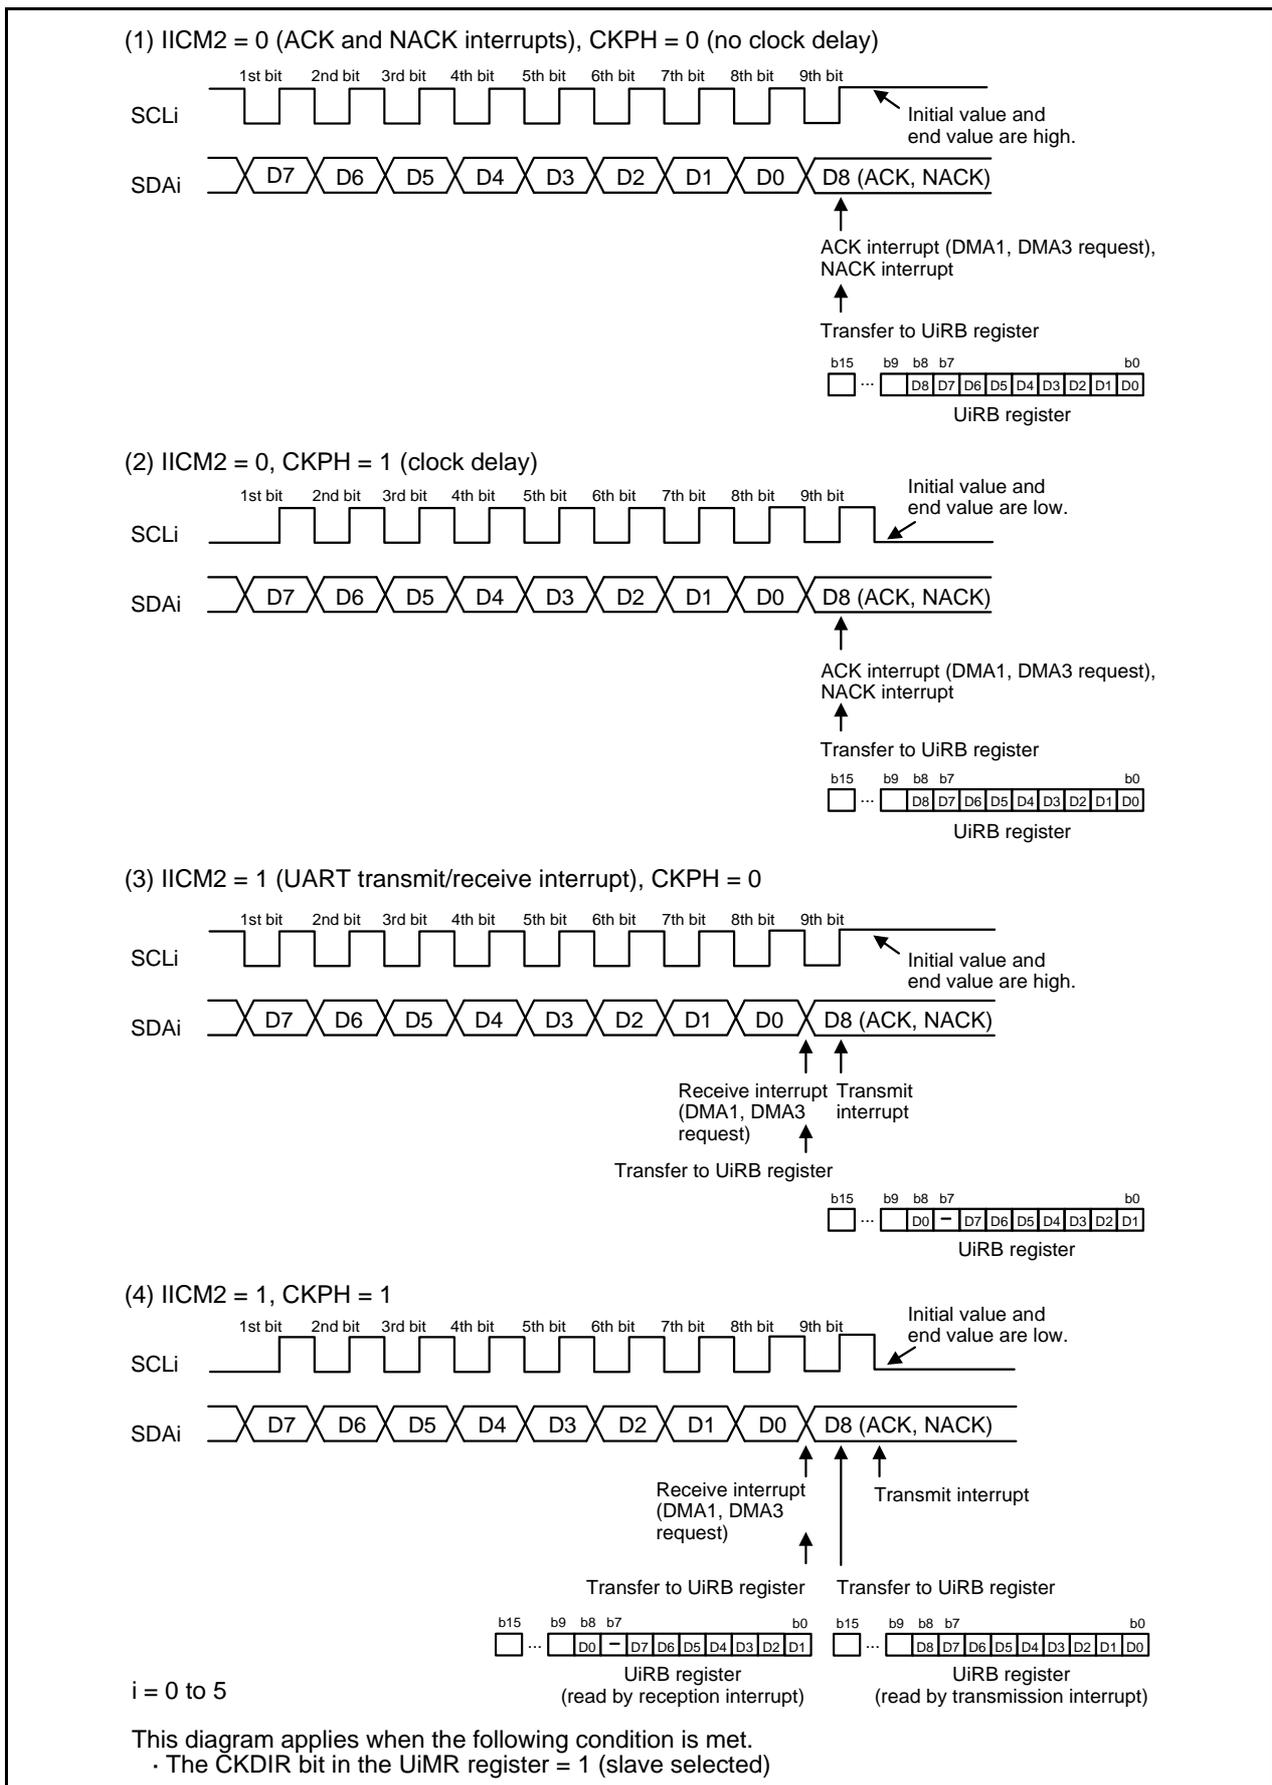

Figure 22.19 Transfer to UiRB Register and Interrupt Timing
In I²C mode, the functions and timings vary depending on the combination of the IICM2 bit in the UiSMR2 register and CKPH bit in the UiSMR3 register. Figure 22.19 shows Transfer to UiRB Register and Interrupt Timing. Refer to Figure 22.19 for the timing of transferring to the UiRB register, the bit position of the data stored in the UiRB register, types of interrupts, interrupt requests and DMA request generation timing.
2. See Figure 22.19 "Transfer to UiRB Register and Interrupt Timing".
The transmit/receive clock is used to transmit/receive data as is shown in Figure 22.19.